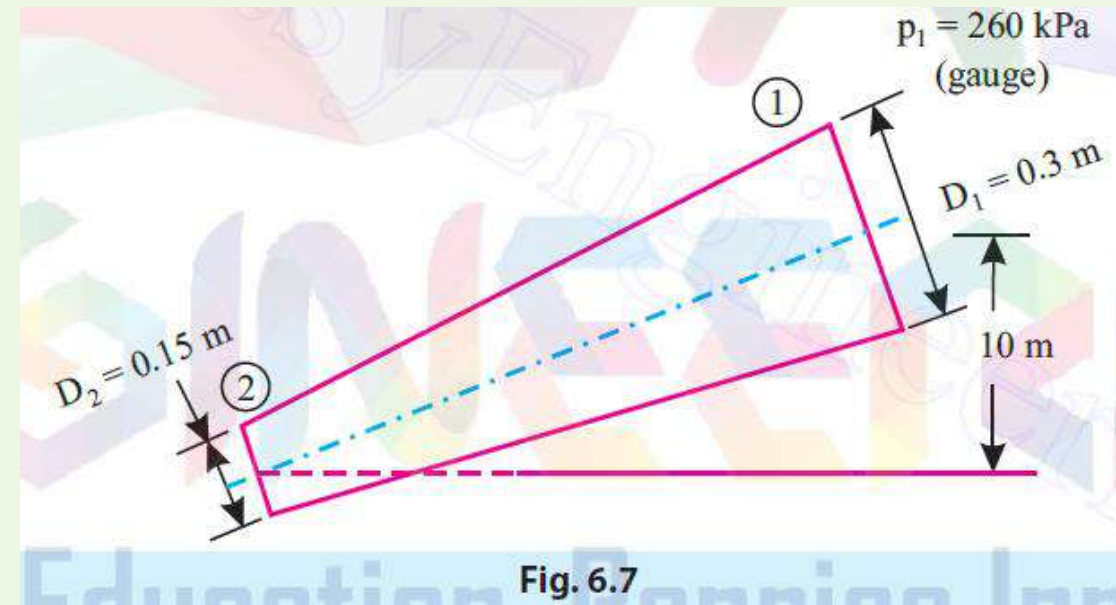

Fig. 6.7
**Solution.** Refer to Fig. 6.7.  $D_1 = 0.3 \text{ m}$ ;  $D_2 = 0.15 \text{ m}$ ;  $z_1 = 0$ ;  $z_2 = 10 \text{ m}$ ;  $p_1 = 260 \text{ kPa}$ ,  $V_1 = 3 \text{ m/s}$ ;  $\rho = 999 \text{ kg/m}^3$ .